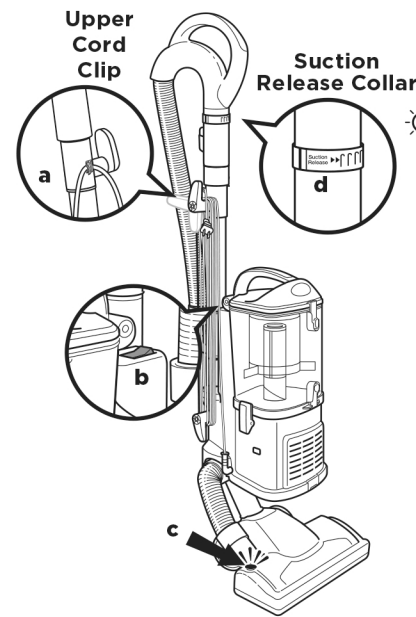

Fig. 11
- 2 Secure the power cord by wrapping it around the cord clips **(a)**. **(Fig. 11)**
- 3 Press the selector switch **(b)** to Setting I to vacuum bare floors (straight suction only) or to Setting II to engage the brushroll (for vacuuming carpets and rugs). **(Fig. 11)**
Brushroll Indicator Light: The brushroll indicator light **(c)** will illuminate green when the brushroll is on, or red if there is a blockage or jam. **(Fig. 11)** This feature is designed to protect the brushroll. See Checking for Blockages.
- 5 Increase or decrease suction power by adjusting the suction release collar **(d)** on the handle. **(Fig. 11)** If the vacuum seems difficult to push or pull or if it is lifting up area rugs, reduce suction by rotating the collar counterclockwise. To increase suction and to vacuum floors, rotate the collar clockwise.